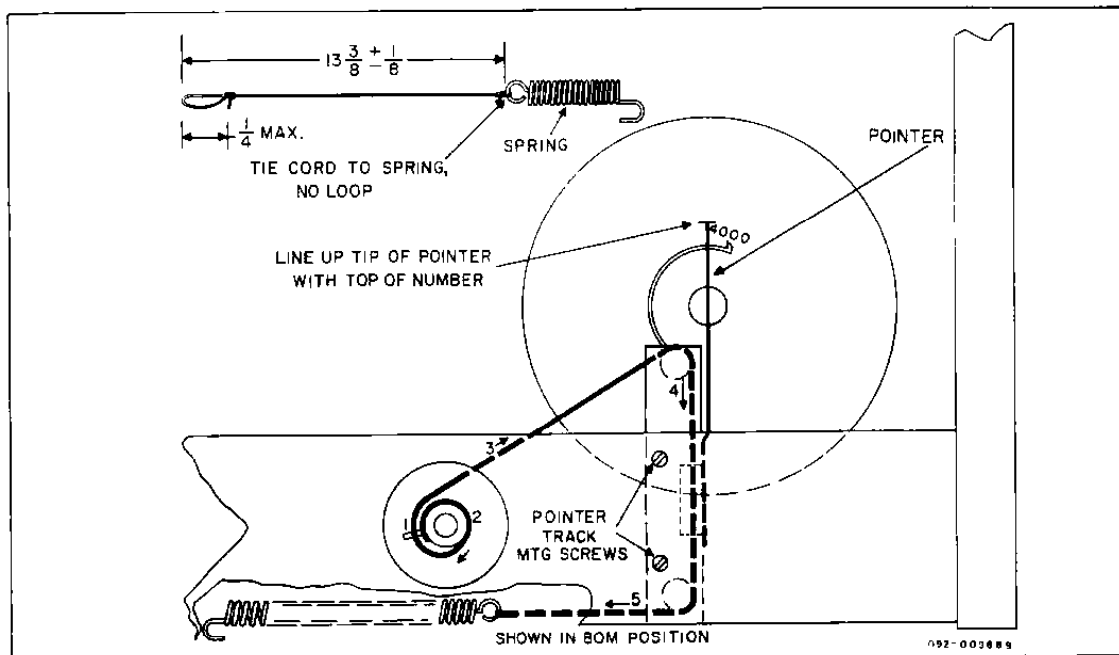

Figure 15. Dial Cord Restringing.
3. Make up dial cord as shown in figure 15.
5. Place the loop at the end of the dial cord over the pin (1) on the drum. Following the numerical sequence and arrows as shown in figure 15, string the dial cord and anchor the spring in the chassis hole providing the required tension.